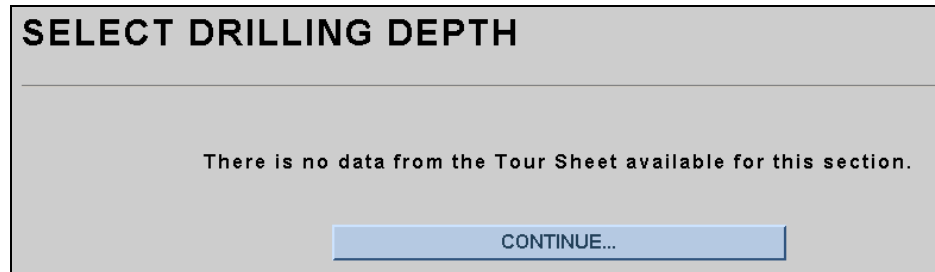

Figure 3.2: Select Drilling Depth screen
4. After the data has been collected, a screen for each selected area will open. For example, if there is no data with which to populate the CMR, you will see a screen similar to figure 3.2 below. Click the **CONTINUE** button to proceed to the next screen.